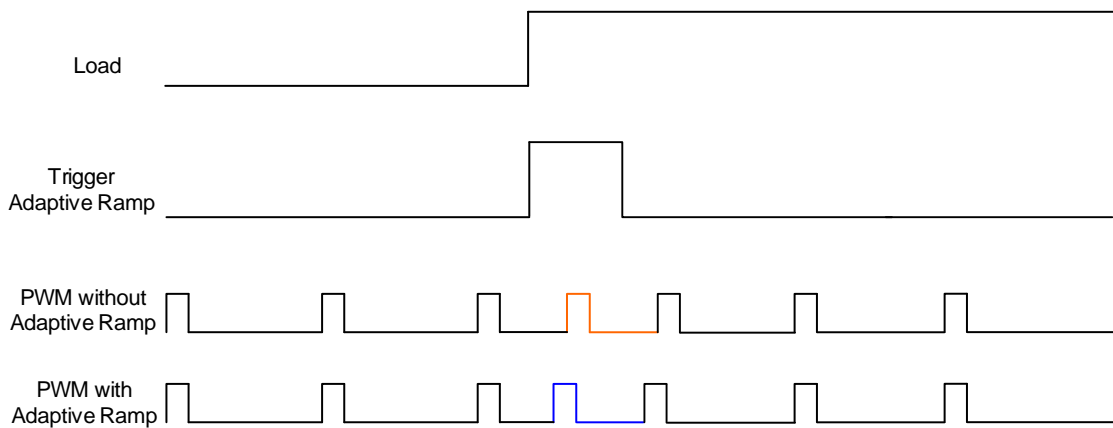
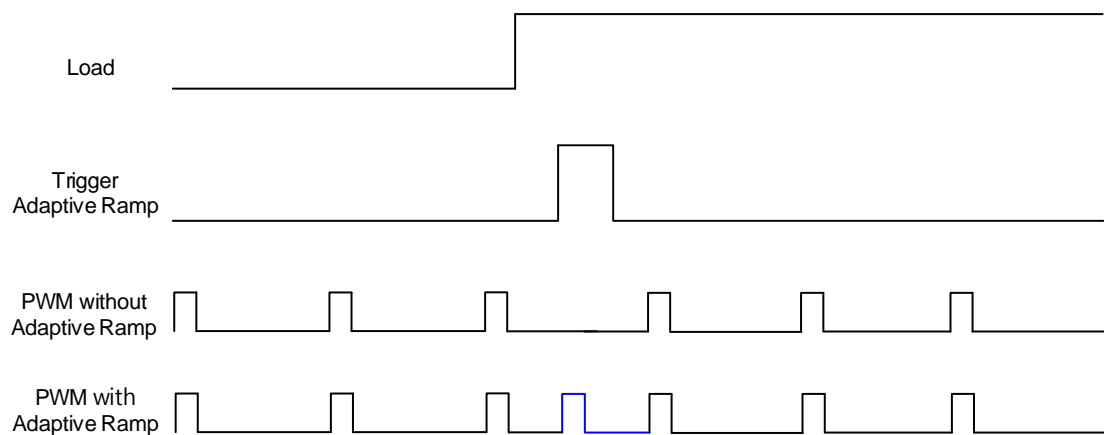

Figure 26. Adaptive Ramp Behavior in Multi-Phase Operation
Figure 27. Adaptive Ramp Behavior in Single-Phase Operation
The RT3638AJ provides another function Adaptive Ramp (AR) for improving undershoot of ACLK. Two AR thresholds for multi-phase and single-phase are compared with COMPx. In a multi-phase operation, when COMPx rises and reaches the threshold then triggers AR, the falling slew rate of RAMPx becomes sharper and the next PWM is generated earlier. The operation principle is in Figure 26. In a single-phase operation, when AR is triggered, an additional PWM pulse is generated directly, as shown in Figure 27. The registers SEL\_MPH\_AR\_THx and SEL\_1PH\_AR\_THx are provided for setting the threshold in multi-phase and single-phase operations. Moreover, a positive offset can be added on DAC or LPF. Refer to Table 43 and Table 44 for the detailed settings of registers 0x32 and 0x33, respectively. Note that the final settings should be adjusted case-by-case.